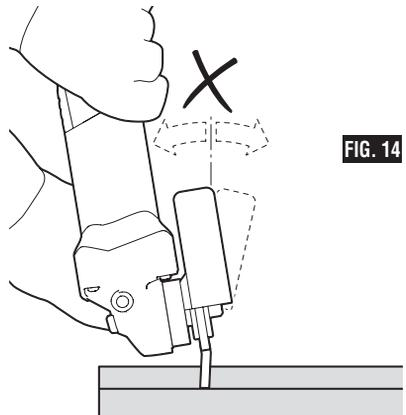

FIG. 14
4. Do not exert side pressure onto the cutting disc. Do not tilt or oscillate the tool as wheel may burst, (Fig. 14).